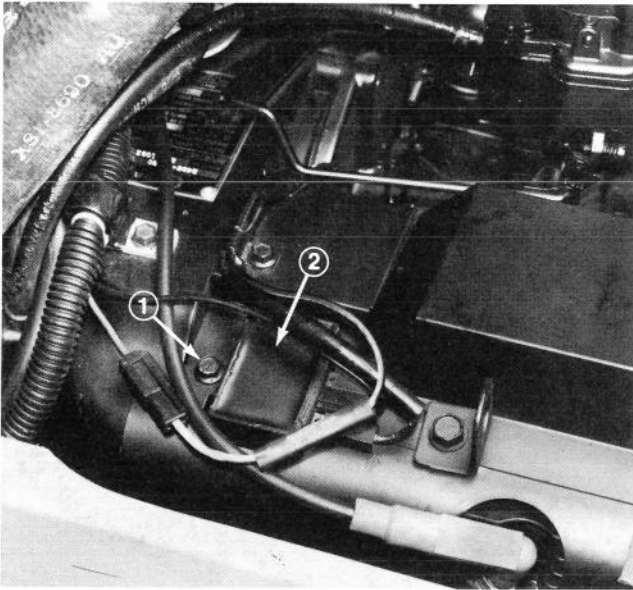

Figure 60
5. Remove self tapping screw securing voltage regulator to left engine housing (Fig. 60).
6. Through opening, clean dirt, grass and chaff from outside of cylinder and cylinder head fins (Fig. 60).